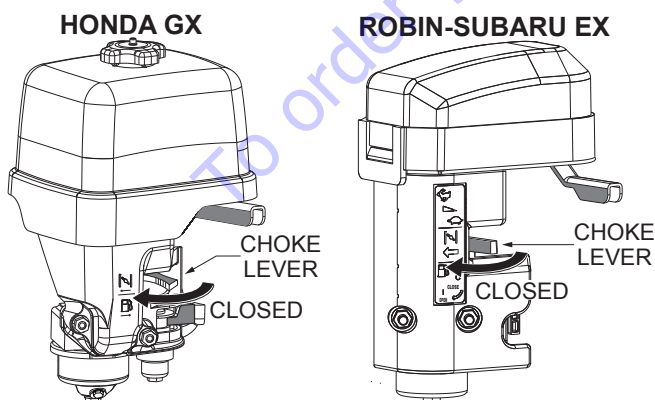

Figure 30. Choke Lever (CLOSED)
- If starting a cold engine, place the choke lever in the **CLOSED** position (Figure 30).
- If the engine has started, slowly return the choke lever to the **CLOSED** position (Figure 30). If the engine has not started, repeat steps 1 through 6.